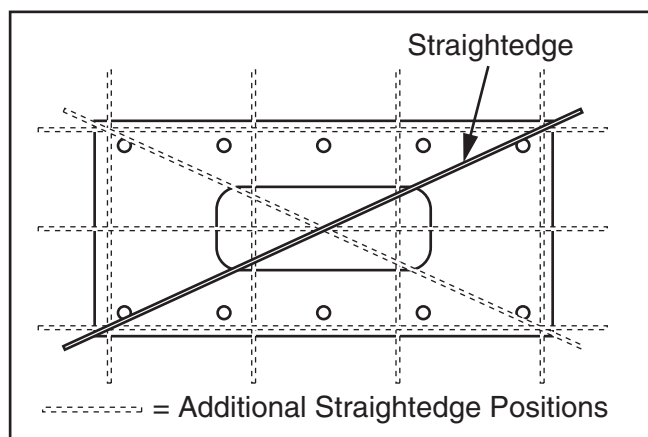

Figure 2. Testing surface flatness.
2. Use a precision straightedge to check for flatness along length, width, and diagonals, as shown in **Figure 2**.